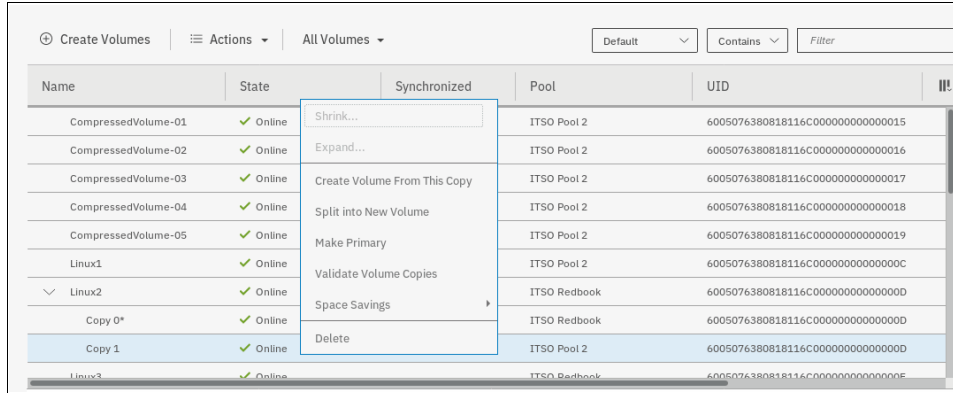

Figure 8-55 Volume Copy Actions menu
4. Open the Actions menu to display the following volume copy actions (see Figure 8-55).